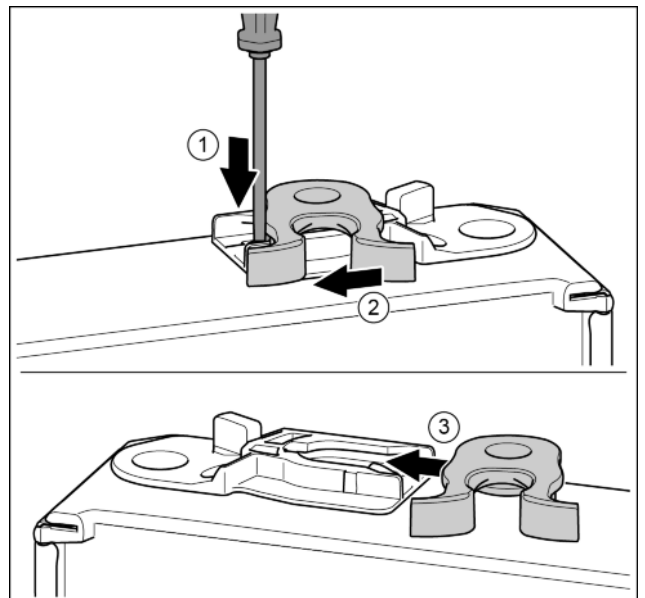

Fig. 17
- ▶ Underside of door faces upwards: Turn the door. *Fig. 17 (1)*
- ▶ Push the lug downwards with a slotted screwdriver. *Fig. 17 (2)*
- ▶ Pull the door latch out of the guide. *Fig. 17 (2)*
- ▶ Push the door latch into the guide on the other side. *Fig. 17 (3)*